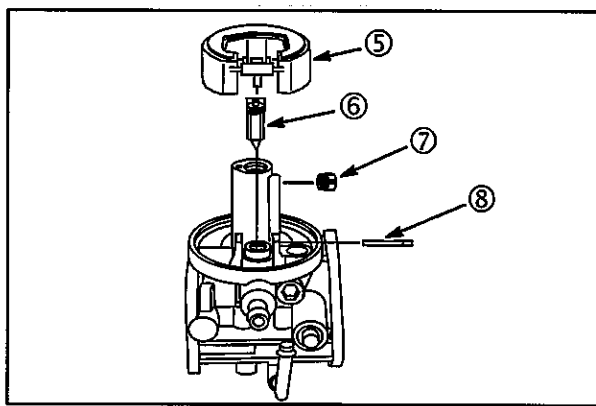

Fig. 44
2. Remove fixed main jet (7) using Screwdriver #19061, **Fig. 44**.
3. Remove float (5) and inlet needle (6).